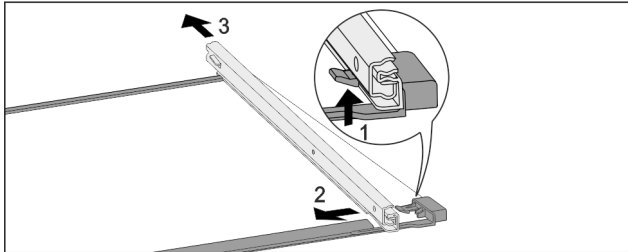

Fig. 173 Glass shelf with rails
- Push up front click-in hooks. Fig. 173 (1)
- Move the pull-out rails to the side Fig. 173 (2) and to the rear Fig. 173 (3).